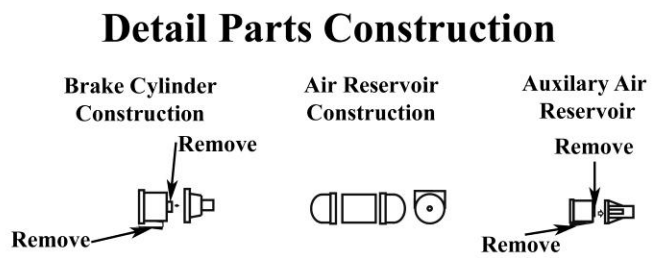

Figure 3
6. Drill a hole in the handbrake bracket with a #61 Drill and fit handbrakes. Assemble the air tank, compensator and brake cylinder and glue in position. Note - file the base of the brake cylinder and compensator before fitting to the floor and they go to the end with the handbrake brackets Figure 3. A shunters steps can be added beside the brake handle if desired. Make the shunters step from a staple.